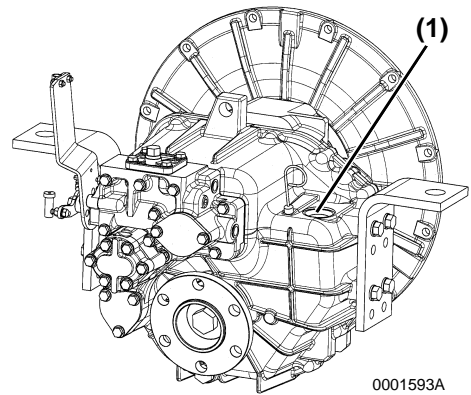

Figure 5
9. Remove the oil cap (**Figure 5, (1)**). Fill with the following quantities of oil, and add the amount required for cooler and pipelines.